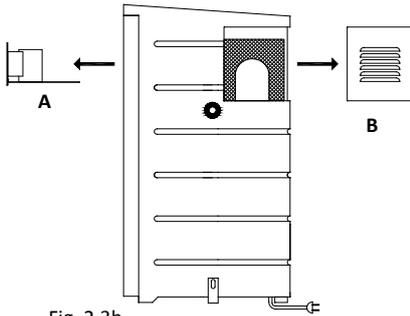

Fig. 2.3b
- Remove the protection cover (B in fig.2.3b) from the cool shaft by loosening the four bolts which hold the cover. If necessary remove the connector and earth cable from the fan on the cover to create more working space. Loosen the two grip nuts from the electro front plate (A in fig.2.3b). Unplug the connectors to remove the plate from the enclosure